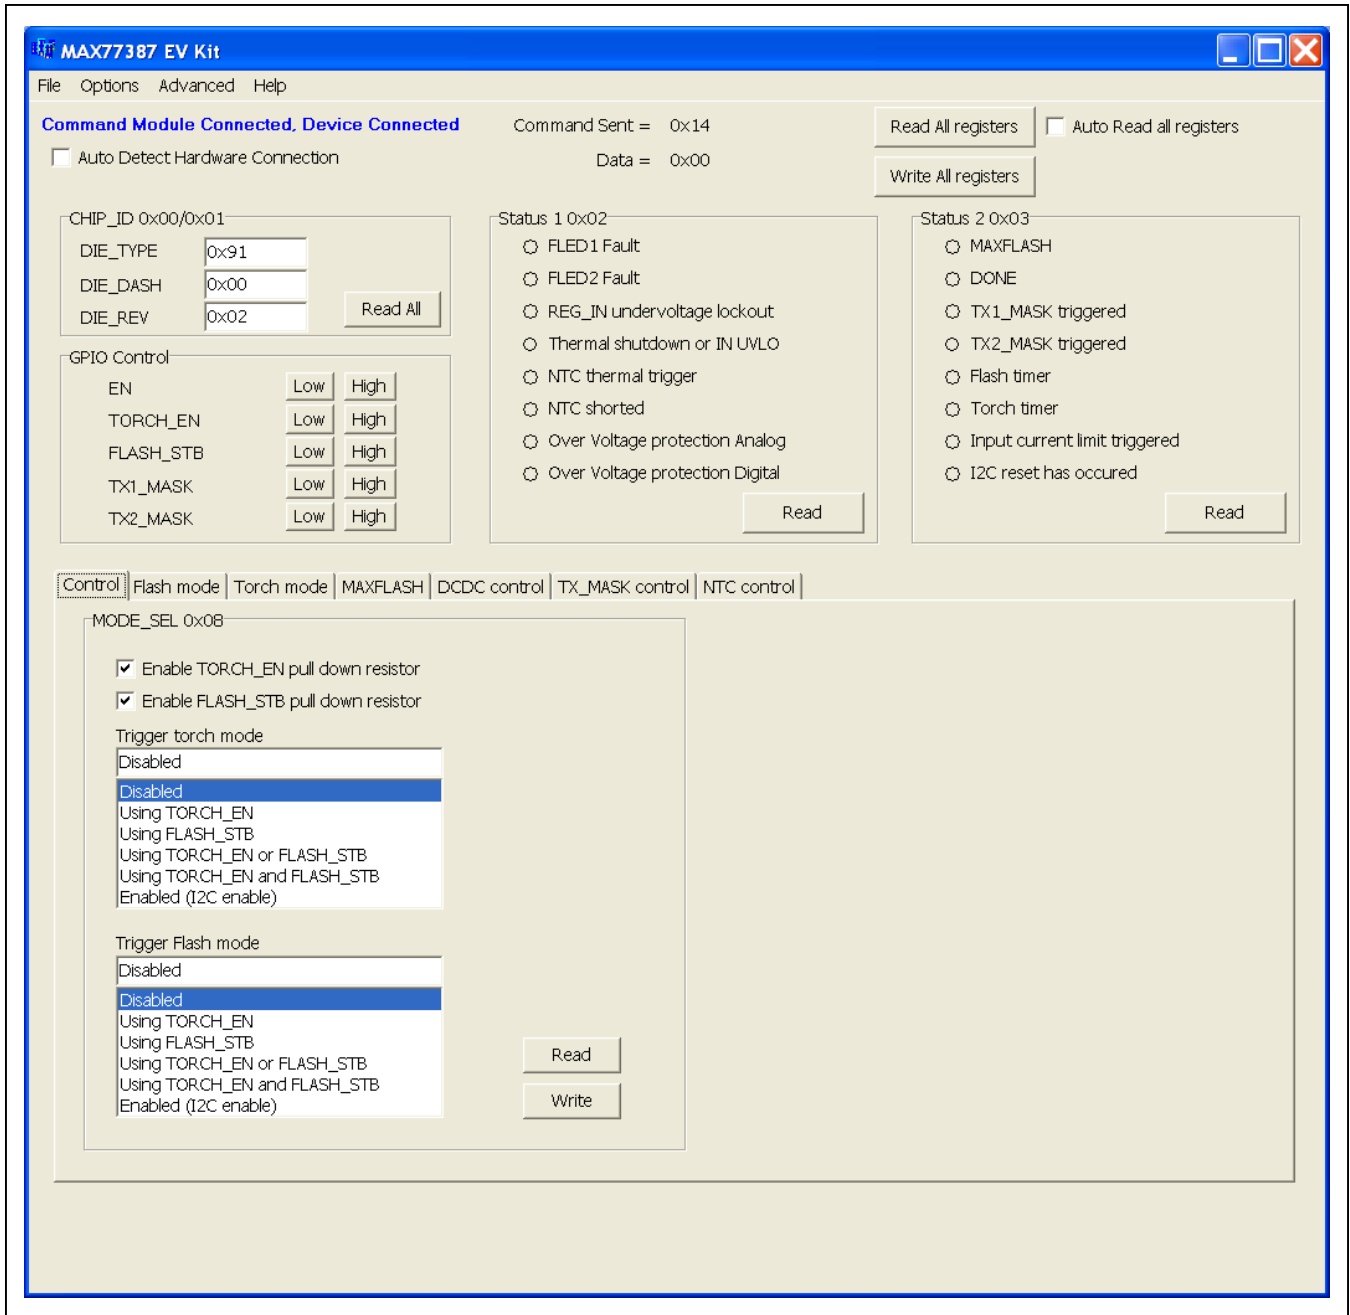
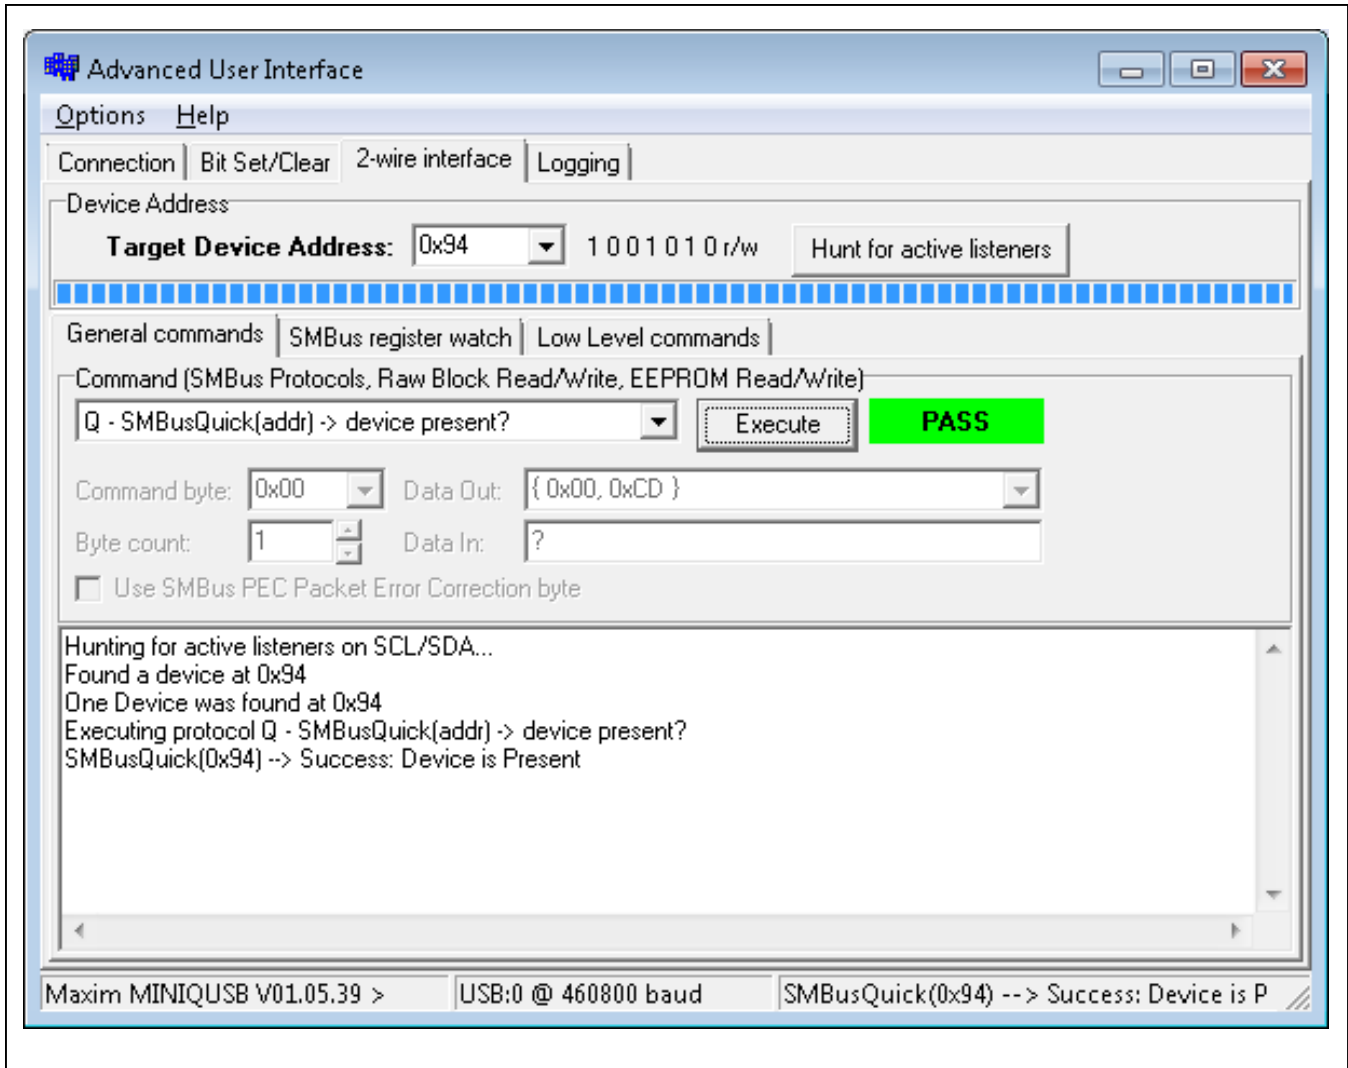

Figure 1. MAX77387 EV Kit Software Main Window
Figure 9. Maxim Command Interface Window
- 10) Start the MAX77387 program by opening its icon in the **Start | Programs** menu. The EV kit software Main window appears, as shown in Figure 1.
- 11) Normal device operation is verified when the **Command Module Connected, Device Connected** is displayed at the top-left side of the MAX77387 EV kit main window (Figure 1).
The MAX77387 EV kit includes a MINIQUSB microcontroller command module that provides the I²C interface to control the MAX77387 configuration. The main window of the EV kit software (Figure 1) displays seven tabs to set the configuration: **Control**, **Flash mode**, **Torch mode**, **MAXFLASH**, **DCDC control**, **TX_MASK control**, and **NTC control**. After any write or read operation, the related command and data sent are shown in the top-center box of the main window.
There are two methods for communicating with the MAX77387: through the normal user-interface panel (Figure 1) or through the SMBus commands available by pressing the **Debug** button in the main window. The **Maxim Command Module Interface** window (Figure 9) pops up and includes a **2-wire interface** tab that allows for execution of the **SMBusSendByte()** command. Refer to the MAX77387 IC data sheet for command-byte format. The **SMBus dialog** boxes accept numeric data in binary, decimal, or hexadecimal. Hexadecimal numbers should be prefixed by \$ or 0x. Binary numbers must be exactly eight digits. See Figure 9 for an illustration of this tool.